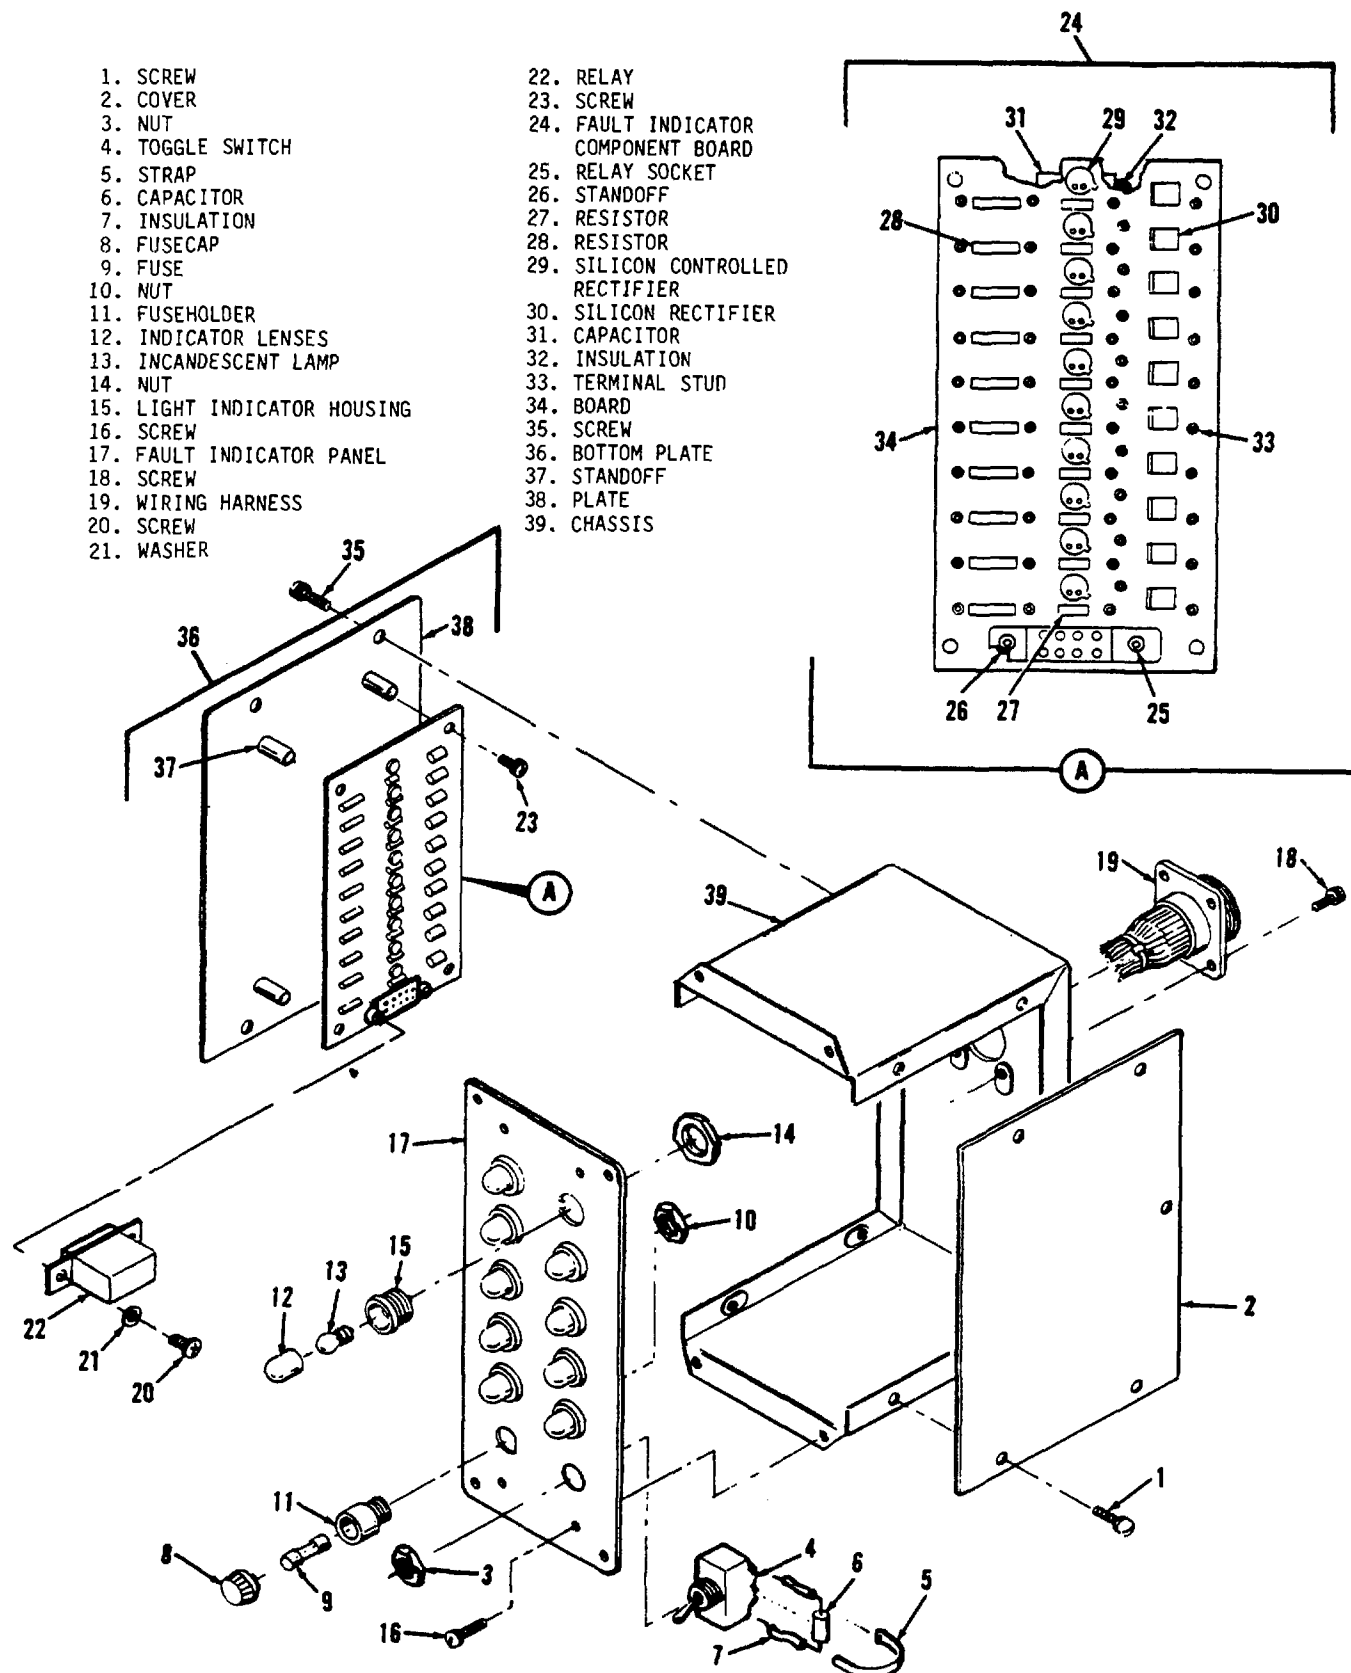

Figure 4-26. FAULT INDICATOR Assembly A9, Exploded View
(1) Refer to paragraph 4-42d and remove the FAULT INDICATOR assembly (see figure 4-26).
(2) Remove five screws (1) and cover (2).
(3) Inspect harness wiring for continuity and defective insulation.
(4) Inspect harness connector for damaged threads; bent, loose, or missing pins; and for shorts.
(5) Check electrical components for open circuits, short circuits, continuity and proper values (refer to figure 4-26 and 4-27).
(6) Check diodes for forward and reverse resistance. Measured from anode (+) to cathode (-), resistance should be low. Reverse leads, value should be at least 100 times greater than forward resistance.
(7) Inspect printed circuit board (24) for damage, burns, discolored areas, and signs of overheating. Inspect components for security, and circuits for breaks and damage.
(8) Inspect base of printed circuit board for cracks warping, burned or discolored areas, and illegible stenciling.
(9) Inspect sheet metal parts for bent corners, distortion, cracks, tears, and dents.
(10) Check terminal lugs for security and condition.
(11) Inspect relay sockets for damage and shorts between case and surrounding pins.
(12) Inspect for broken indicator lenses.
(13) Check fuse for continuity.
Refer to figures 4-26 and 4-27 for circuitry, component layout, and wiring.